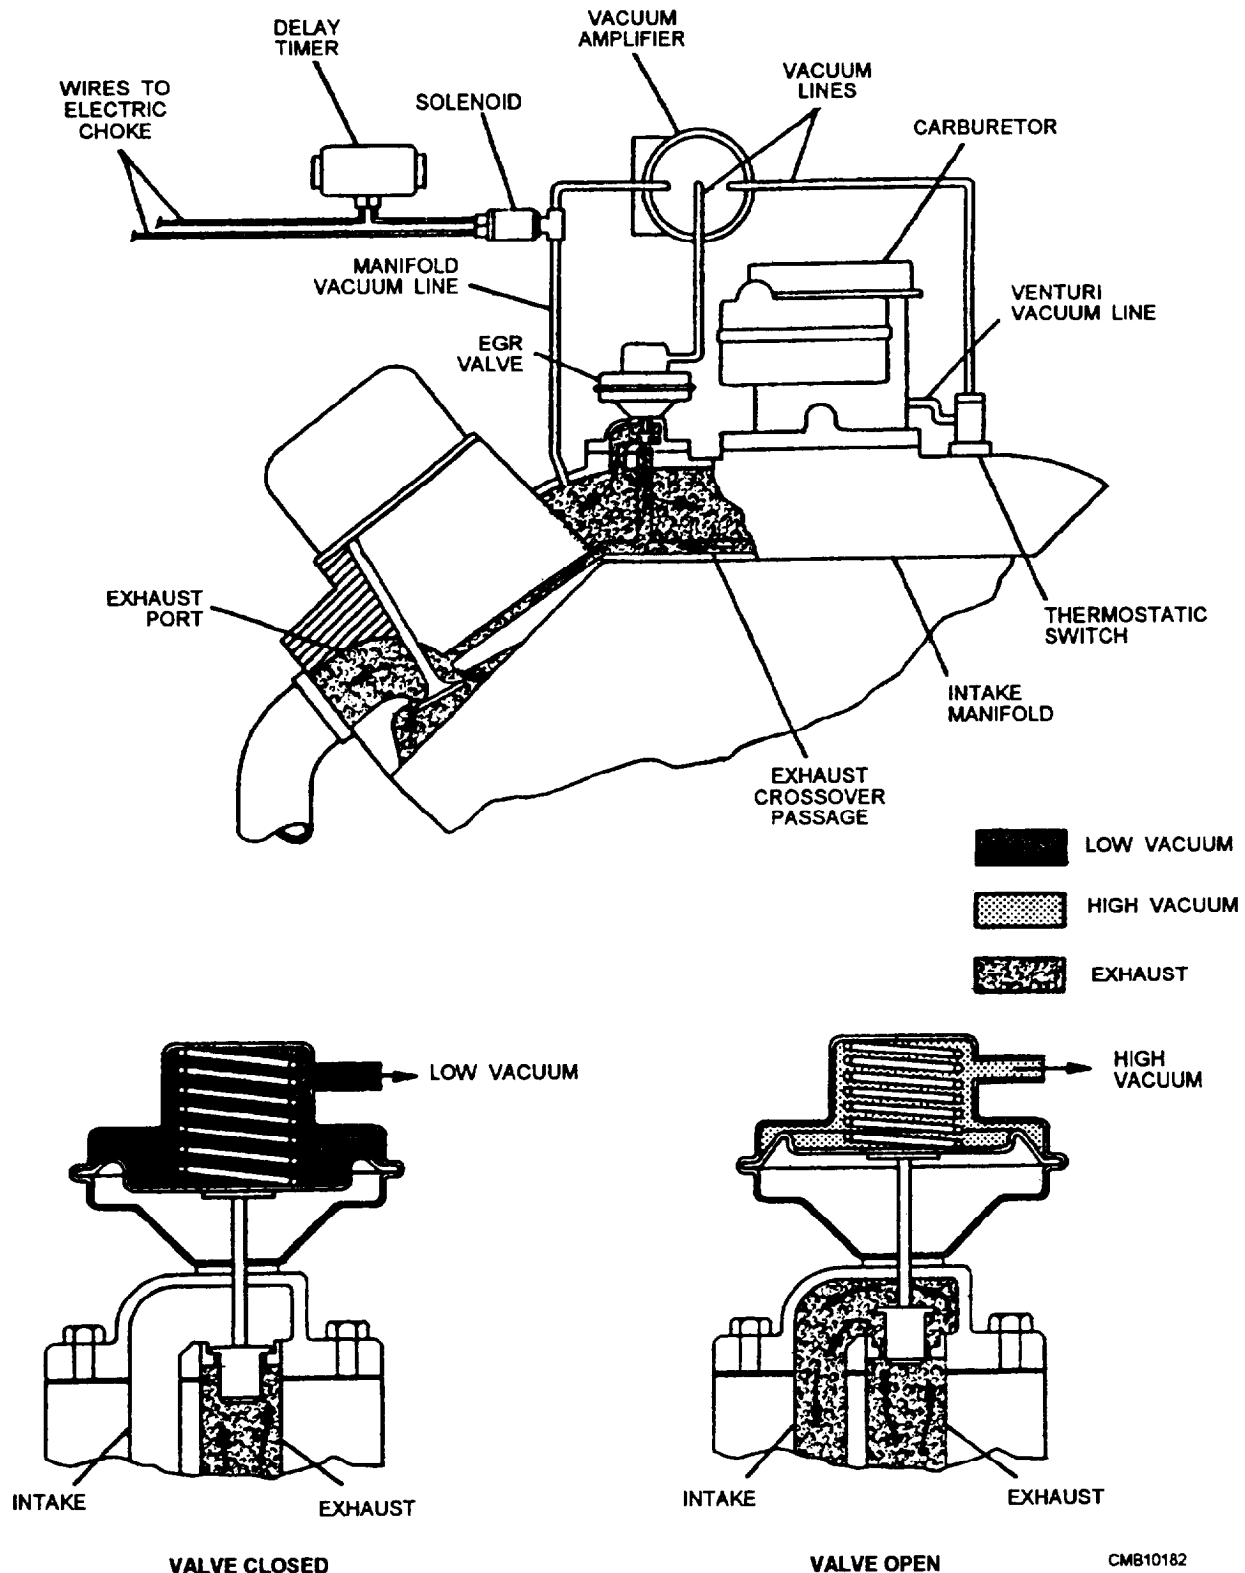

Figure 4-53.—EGR system.
to produce oxides of nitrogen ( $\text{NO}_x$ ). The exhaust gas recirculation (EGR) system (fig. 4-53) helps to control the formation of oxides of nitrogen by recirculating a portion of the exhaust gases back through the intake manifold, resulting in cooler combustion chamber temperatures.
- The second method uses a vacuum port that is directly in the carburetor venturi (fig. 4-53). The carburetor venturi provides vacuum for the EGR valve any time the engine is running at high speed. The problem with using venturi vacuum is that it is not strong enough to open the EGR valve. So to make it work, manifold vacuum is used to operate the EGR valve through a vacuum amplifier. The vacuum amplifier switches the manifold vacuum supply to the